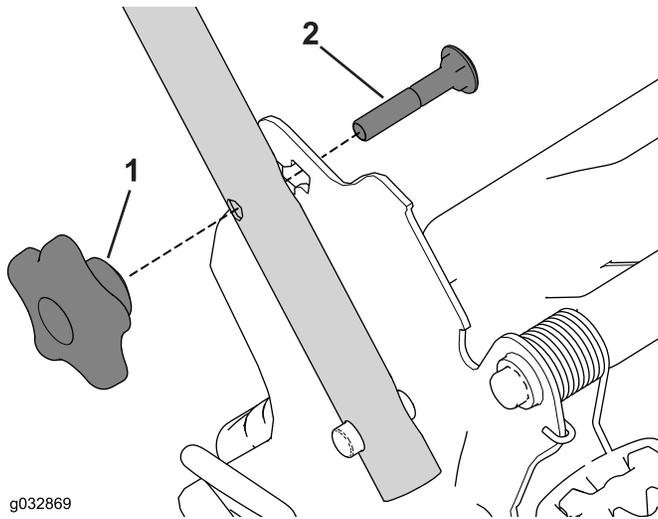

**Figure 26**
1. Remove the electric-start button (Figure 26).